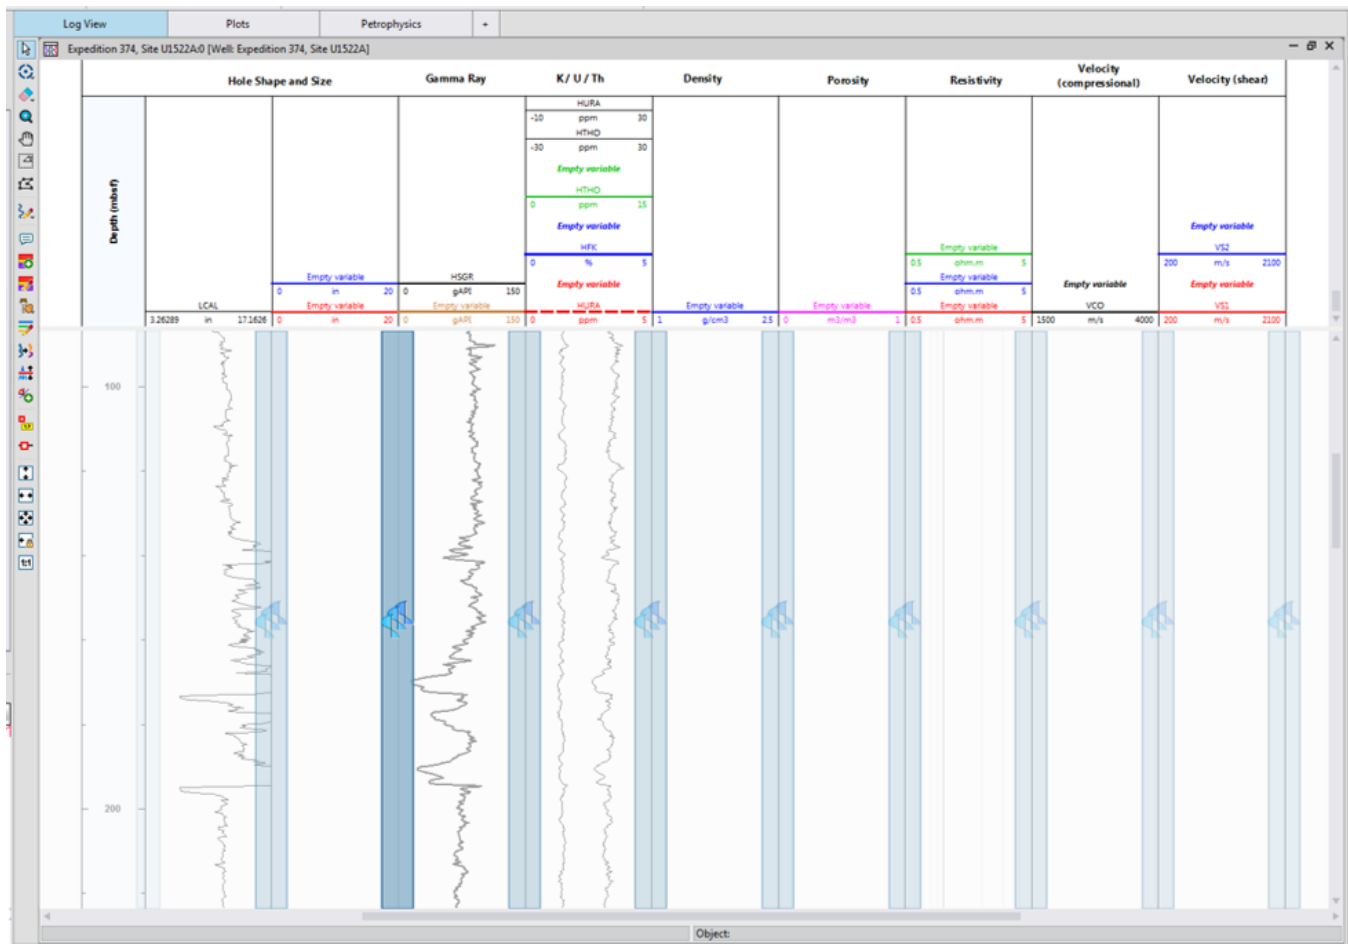

Figure 17. Log View plot in edit mode where the user can drag-and-drop a variable into an existing track, or create a new track in between.
3. To create a new track for a variable, simply click-and-drag a variable in between existing tracks, highlighted as blue columns that temporarily appear in the Log View plot (Fig. 17)